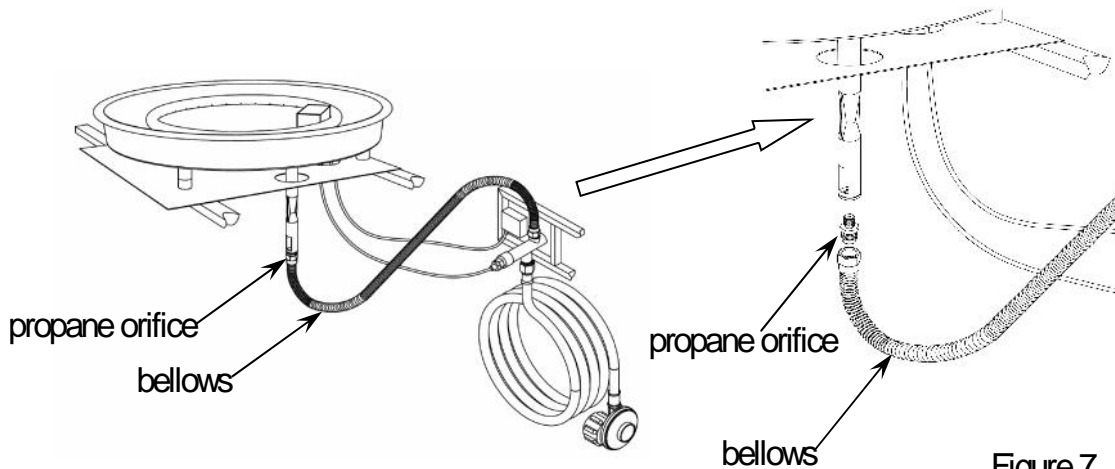

Figure 7
2. Unscrew and disconnect the propane orifice from the bellows, see Figure 7. Propane orifice (dia2.09mm size) is painted with red mark.